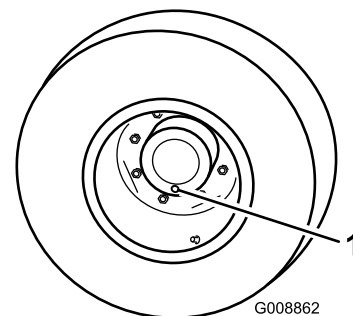

Figure 86
1. With the machine on a level surface, position a wheel so that one of the check plugs is at the lowest (6 o'clock) position (Figure 86).